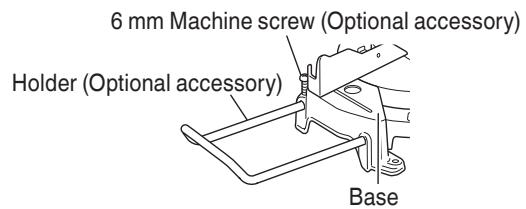

Fig. 9
- As indicated in Fig. 9, installing the holder in the holes on the side of base and fasten it with 6 mm machine screw (Optional accessory).